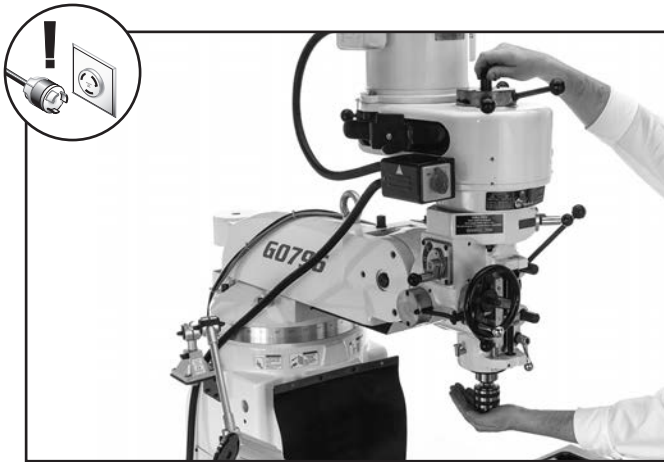

Figure 53. Drawbar loaded (Model G0796 shown).
5. With one hand holding tool in place, insert drawbar into spindle from top of head, then thread it into tool by hand until snug (see **Figure 53**).